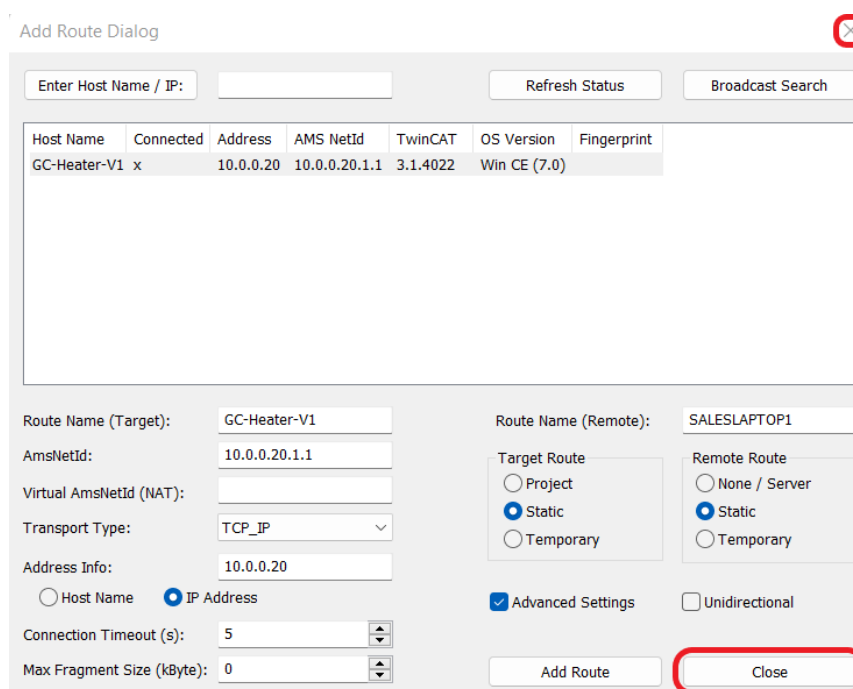

Figure 34: Static Routes – Closing the ‘Add Route Dialog’ window
- Once you have established routes to all of the HEAT VIEW controllers you wish to connect to, you may now close all of the windows relating to this function using the ‘Close’ and ‘X’ buttons highlighted in Figure 34 and return to the ‘Main Screen’ of the application.